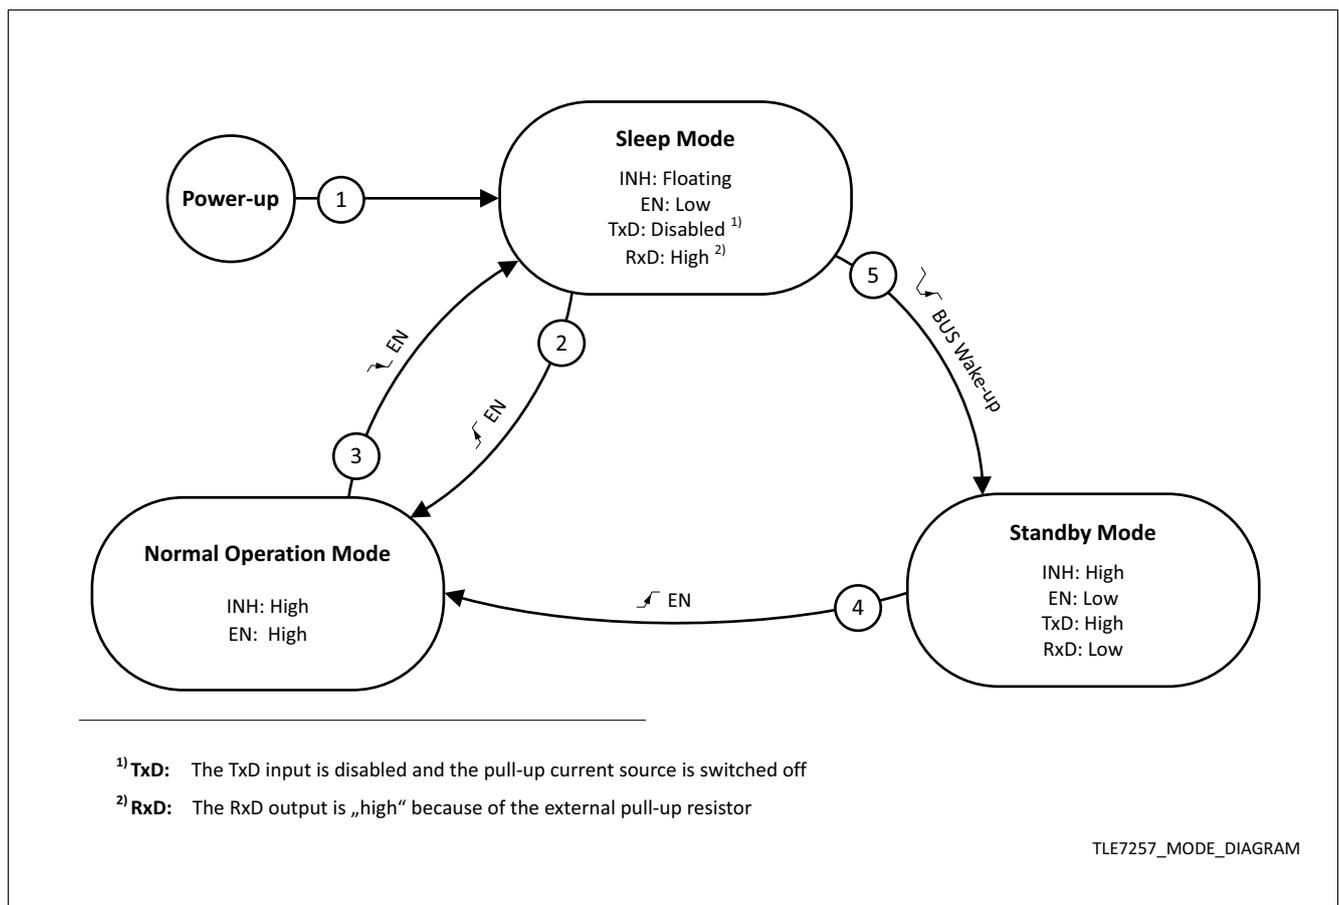
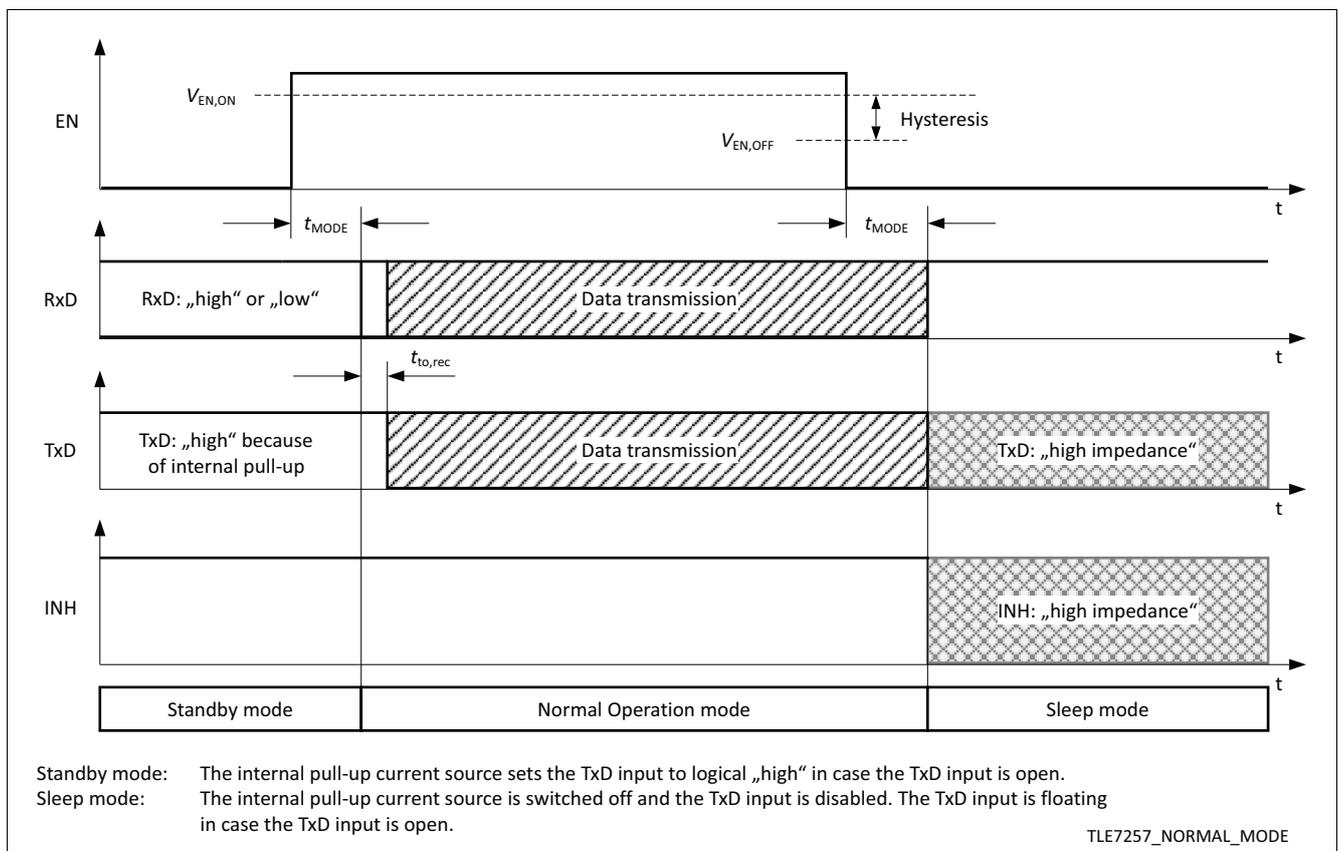
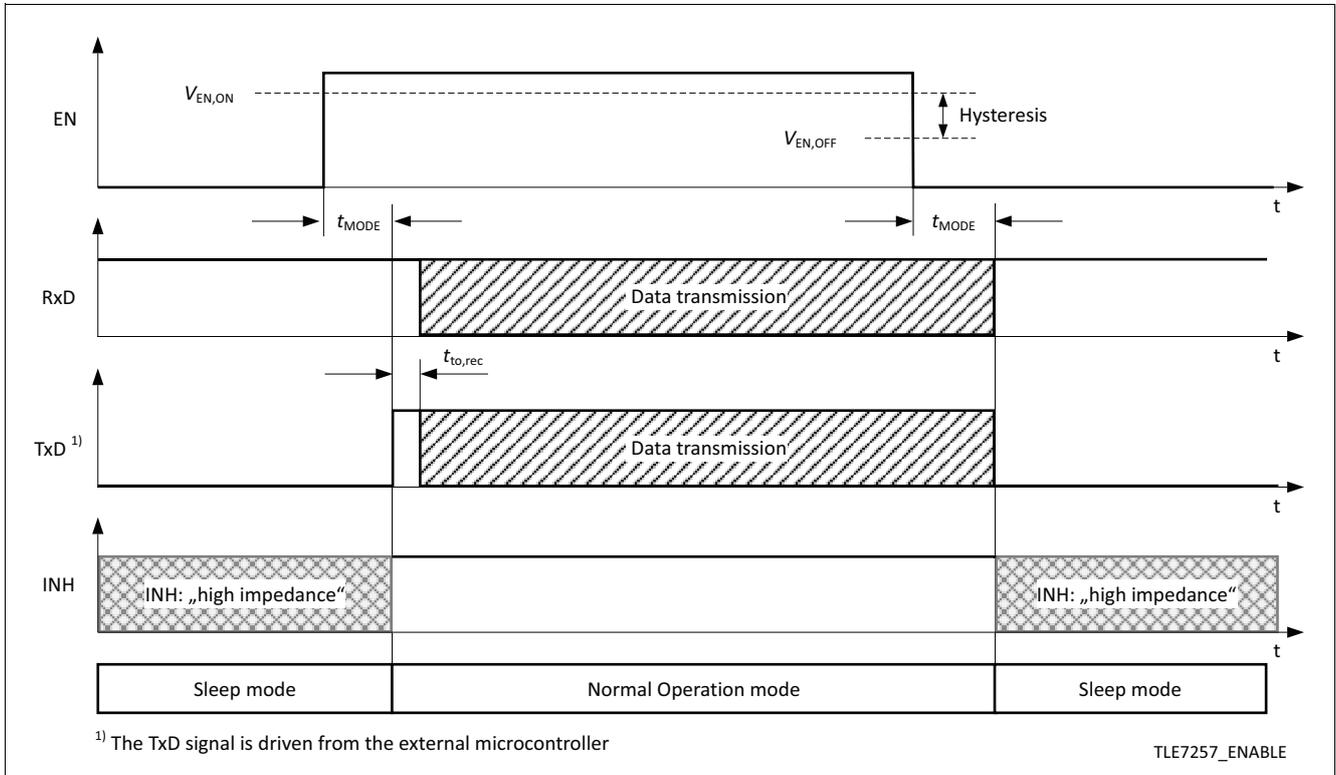

Figure 4 Operation mode state diagram
Figure 5 Entering Normal Operation mode from Standby mode
Figure 9 Entering Normal Operation mode from Sleep mode
The TLE7257 has 3 major operation modes (see Figure 4):
Normal Operation mode can be entered from either Sleep mode (see Figure 9) or from Standby mode (see Figure 5), by setting the EN input to logical "high". From Normal Operation mode the TLE7257 can only enter Sleep mode, it is not possible to enter Standby mode directly (see Figure 4).
After a mode change to Normal Operation the TLE7257 requires a logical “high” signal for the time $t_{to,rec}$ on the TxD input before releasing the data communication (see Figure 5). The transmitter remains deactivated as long as the signal on the TxD input remains logical “low”, preventing possible bus communication disturbance.
- The RxD output indicates a wake-up event (see Figure 4 and Table 1).
- The EN input is active. A “high” signal on the EN input triggers a transition to Normal Operation mode (see Figure 5).
To switch the TLE7257 from Normal Operation mode to Sleep mode, the EN input has to be set to “low”. Conversely a logical “high” signal on the EN input sets the device directly back to Normal Operation mode (see Figure 4). The TLE7257 can only enter Sleep mode from Normal Operation mode.
The EN input is used for operation mode control of the TLE7257. By setting the EN input logical “high” for the time t_{MODE} while being Sleep or Standby mode, a transition to Normal Operation mode will be triggered (see **Figure 9**). The EN input has an integrated pull-down resistor to ensure the device remains in Sleep or Standby mode even if the EN pin is left open. The EN input has an integrated hysteresis.
A signal transition from logical “high” to “low” on the EN input changes the operation mode from Normal Operation mode to Sleep mode (see **Figure 5**).